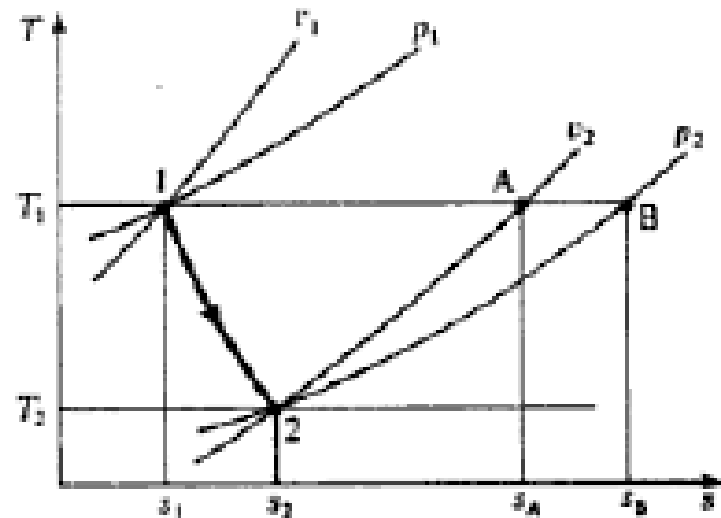

Fig. 4.21 Polytropic process for a perfect gas on a  $T$ - $s$  diagram
- Each problem can be dealt with by sketching the  $T$ - $s$  diagram and replacing the process by two other simpler reversible processes, as in Fig 4.21.